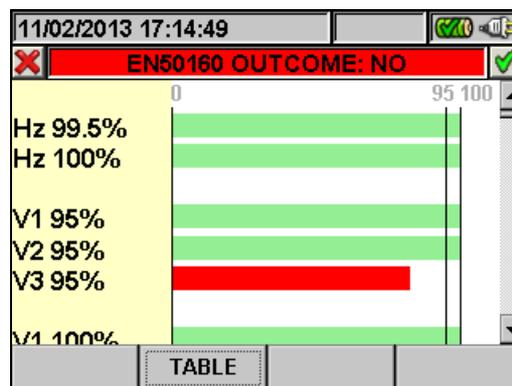

Fig. 169: EN50160 analysis histogram
- The **F2** key (or the **GRAPH** item on the display) accesses the page which shows the histogram of the quantities in the table (see Fig. 169)